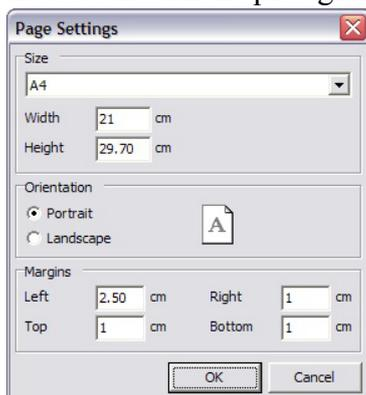

Fig. 4.13 Dialog of page settings
- To setup page parameters (the size, spaces from borders, an orientation kind) having pressed on the button with the pictogram  (Fig. 4.13).